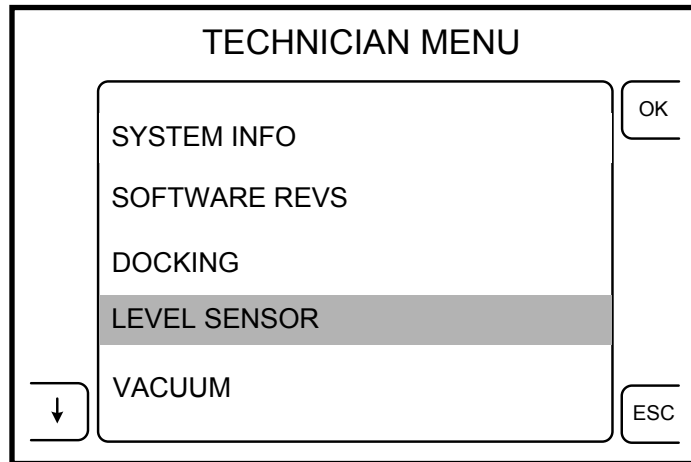

Figure 9: Select DOCKING Option
24. Once the technician menu is displayed, push the button next to the arrow icon (on the left side) to highlight the LEVEL SENSOR option. Then press the button next to the OK icon to select the docking menu. (see figure 9)